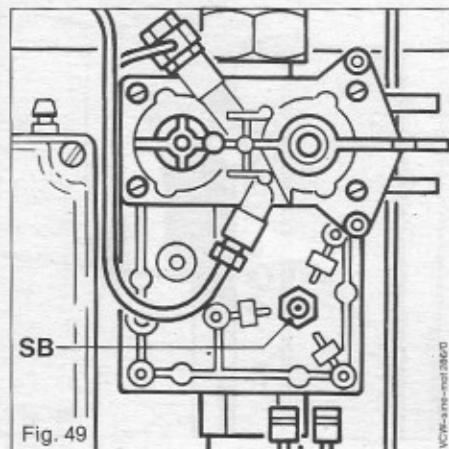

Fig. 49
14.4.4 Change of gas section stuffing box (Fig. 49)